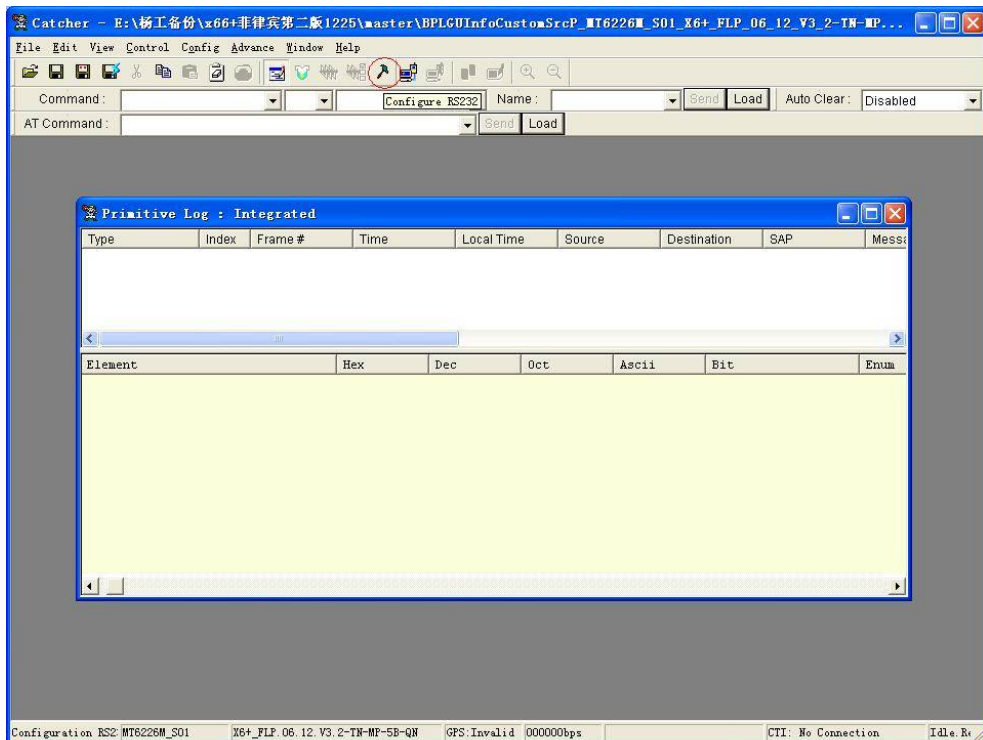
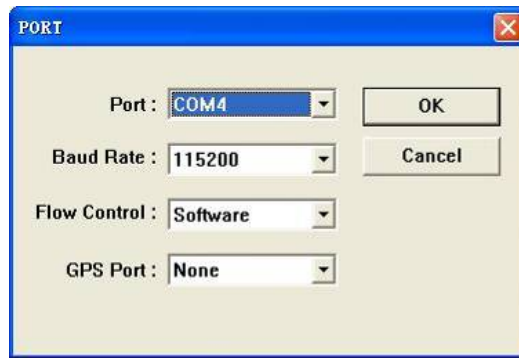

Figure 9
Figure 10
4.2 click button “Configure RS232” in figure 9, then figure 10 occurs, choose the right COM in Port option, and click OK.